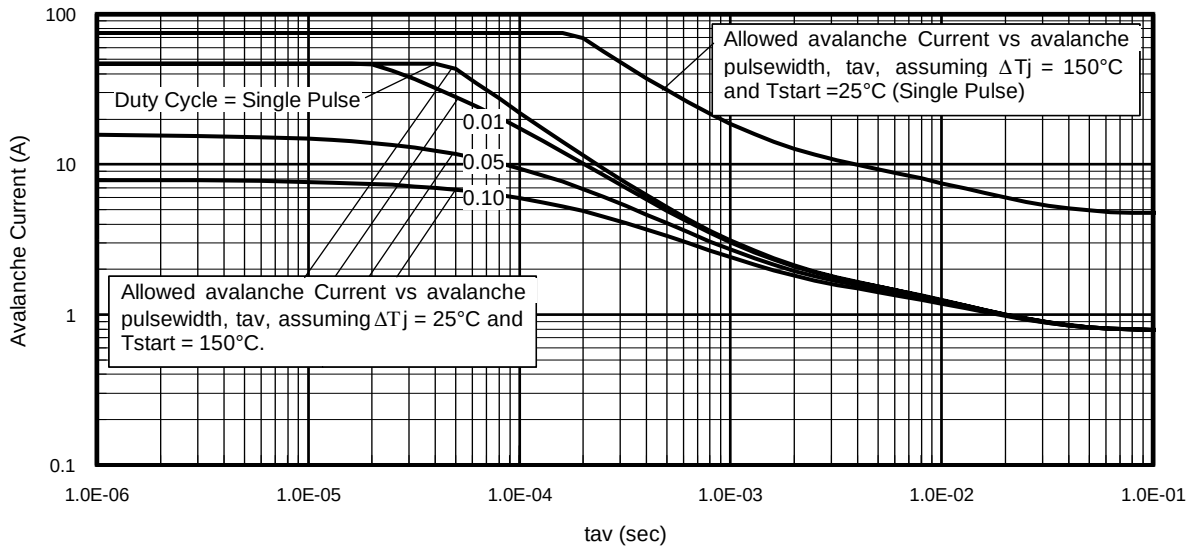

Fig 14. Typical Avalanche Current vs. Pulsewidth
| $I_{AR}$                     | Avalanche Current ①             | See Fig. 14, 15, 22a, 22b, | A  |
**Notes on Repetitive Avalanche Curves , Figures 14, 15:**
7.  $\Delta T$  = Allowable rise in junction temperature, not to exceed  $T_{jmax}$  (assumed as  $25^{\circ}\text{C}$  in Figure 14, 15).